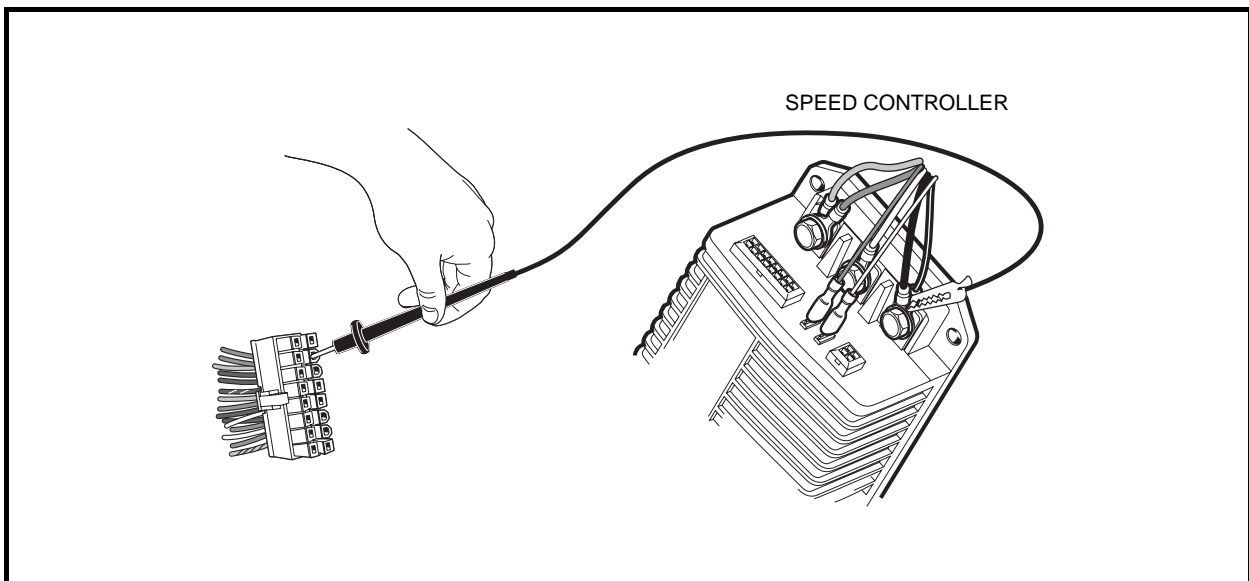

Figure 11-13 Pin 7 Test
4. Place a jumper wire with an alligator clip between the B– terminal of the speed controller (use alligator clip for this connection) and pin 7 (orange/white wire) of the 16-pin connector (**Figure 11-13, Page 11-27**). **See following CAUTION.**